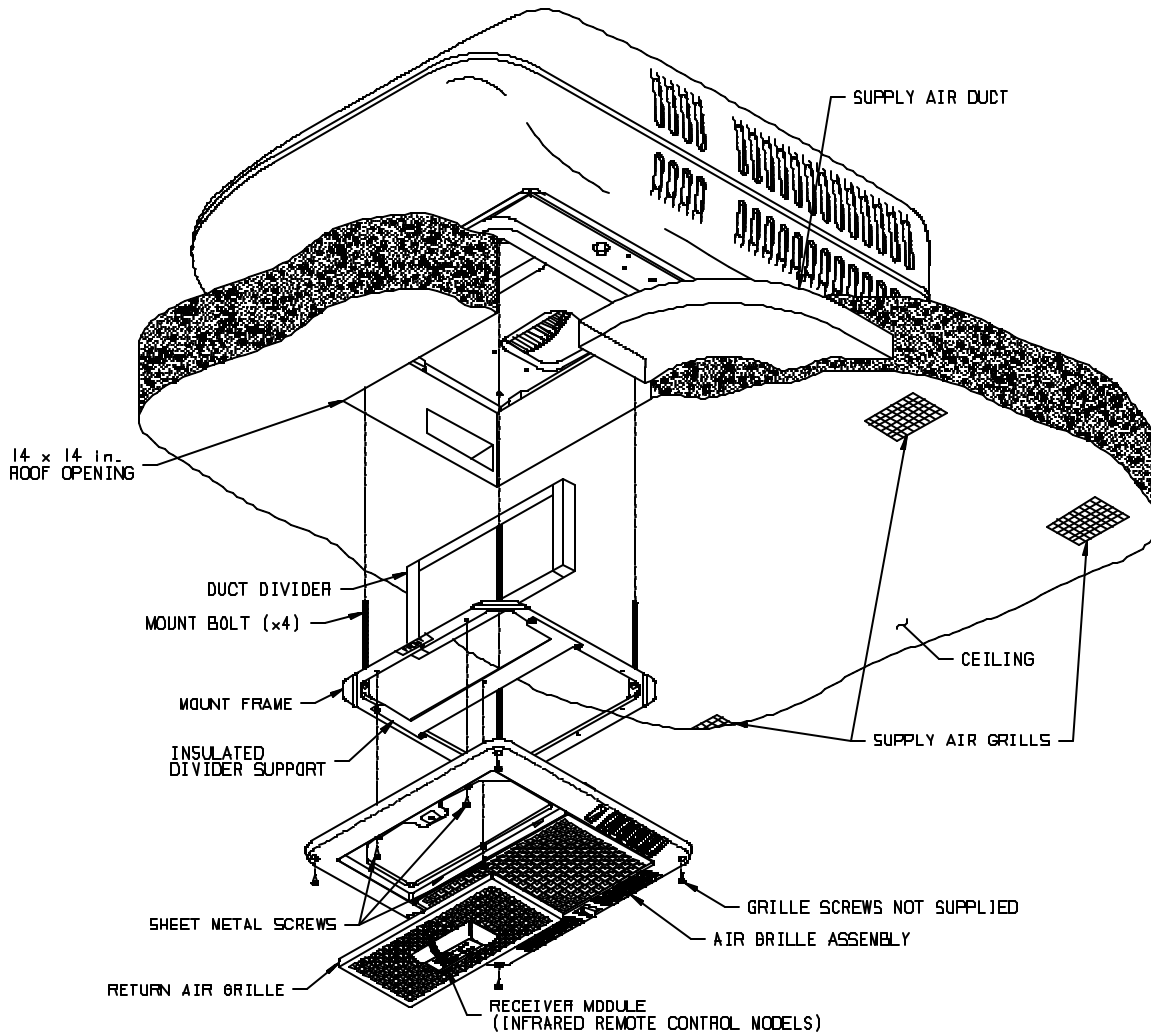

FIGURE 1
1. The field fabricated supply ducting must attach to both sides of the ceiling plenum. A minimum of two ducts are required, with one duct attached to each side of the plenum (See Figure 1).
### A. Installing Unit (Refer to Figure 1)
2. Position the mount frame into the ceiling opening (See Figure 1).
3. Using the four bolts provided, secure the mount frame to the roof top unit. The four mounting bolts are to be applied up through the bottom of the mount frame and into the bottom of the roof top unit (See Figure 1). Tighten each bolt until the indicators of the gasket are at roof level.
### B. Installing Divider Board (Refer to Figure 1)
3. Align the divider support plate under the duct divider. Attach to mount frame with four short screws found in the small parts package (See Figure 1).
1. Temporarily remove the air grille assembly filter door. A quarter-turn of the fastener will disengage the door. Attach the air grille frame to the mount frame with 3 screws as shown in Figure 1 - use 3/4" screws. Adjust as desired to insure that all foam parts are within the grille perimeter, and secure the corners of the grille to the ceiling. These 4 corner screws are not provided. Check all fits to insure that a reasonably air tight seal exists to separate unit supply air from unit return air.